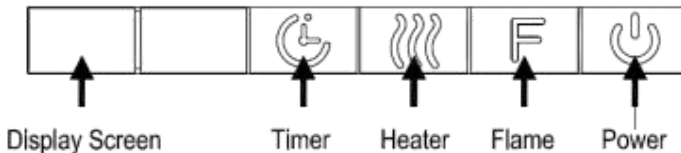

Fig.3
2. Using the remote control (Fig.4), functions same as control panel (Fig.3).